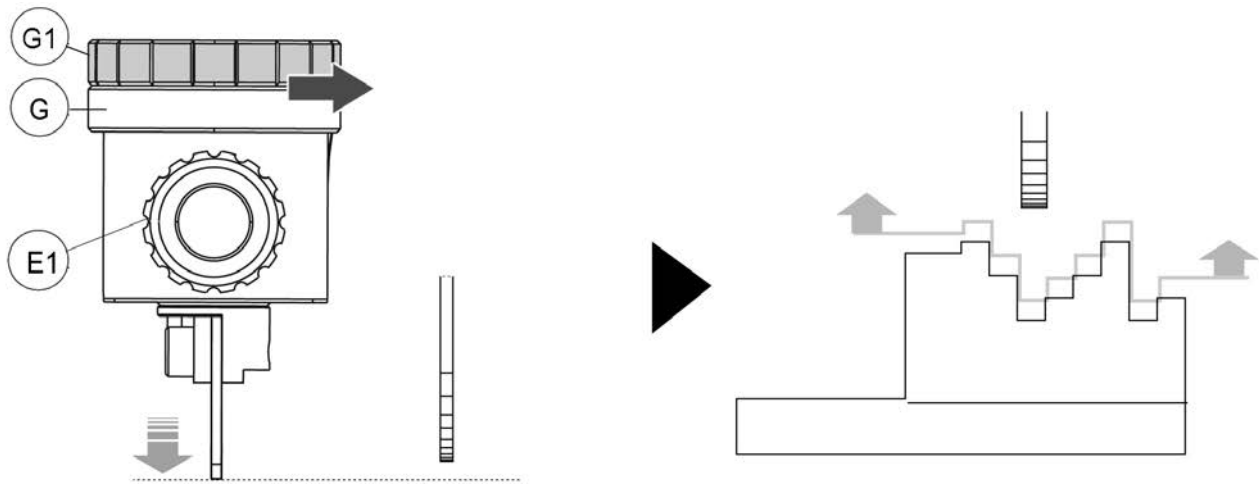

Fig. 18
- turn the ring nuts (G) and (G1) clockwise to advance the tracer point (less deep cuts) (Fig. 18).